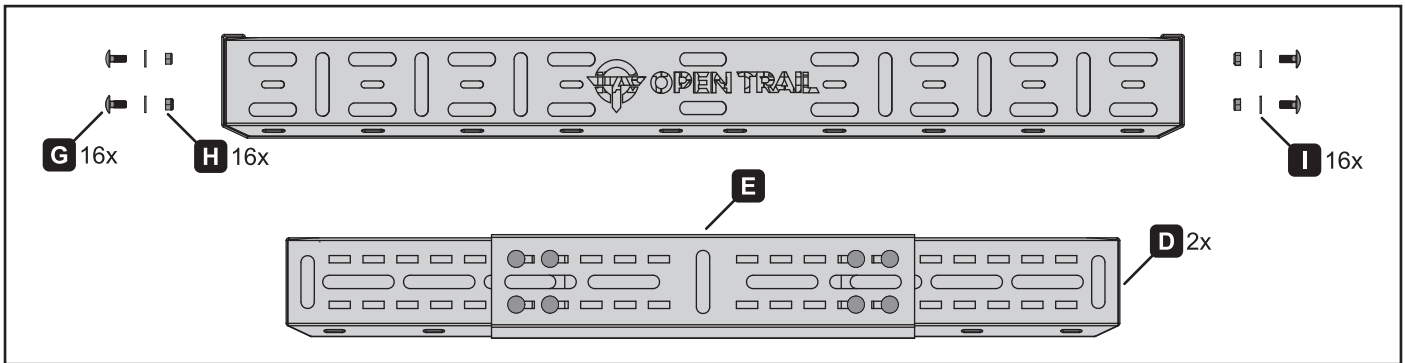

Figure 8.
8. Install 20mm carriage bolts (G), washers (I) and lock nuts (H) into the sides of the basket assembly as shown. Torque the lock nuts to 18 ft/lb (figure 8).